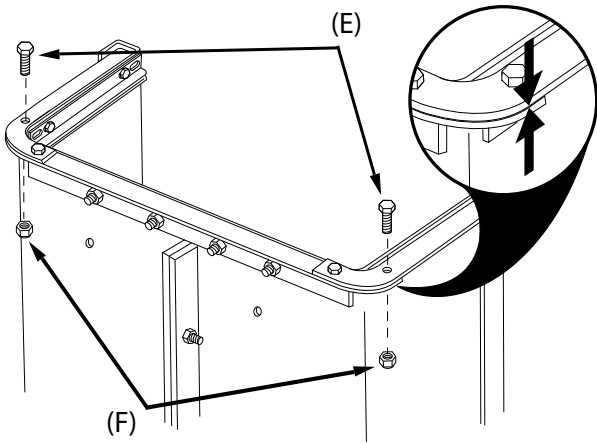

Figure 5
STEP 5 (SEE FIGURE 5): Secure the rear angles (2 & 3) using two 1/4" x 3/4" hex bolts (E) and 1/4" nylock nuts (F). **Do Not Tighten!**